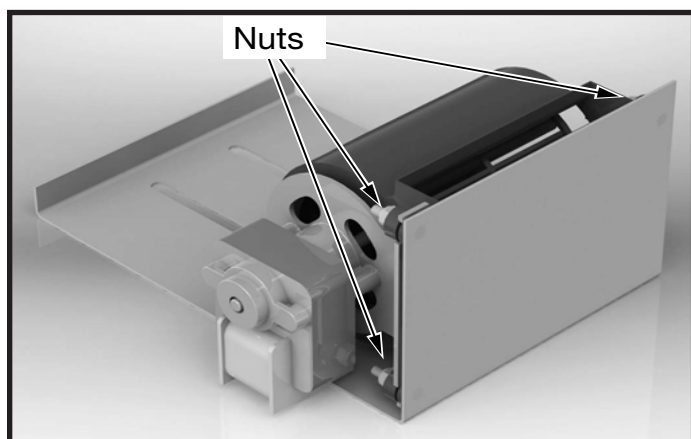

Figure 6: Blower mounting nuts
9. Remove the nuts attaching the blower to the bracket and replace blower (Figure 6).